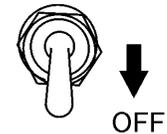

Figure 28. Operation Switch (OFF)
- To shut-down the engine, place the generator's operation switch (Figure 28) in the **OFF** position.
- Place operation switch (Figure 28) in the **OFF** position.